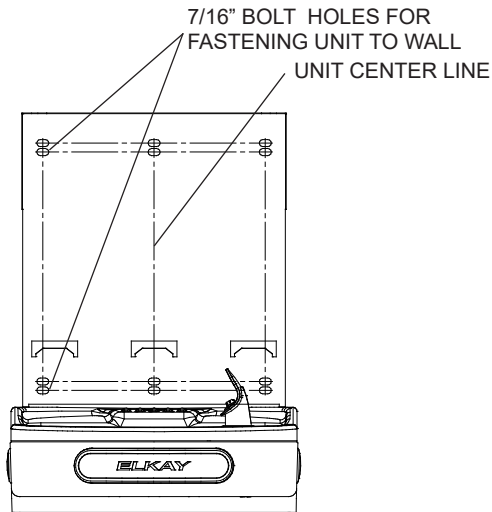

Fig. 4
- 4) Install wall mounting plate to wall using six (6) 7/16" oround mounting holes (mounting bolts not included) (See Fig. 4). Use appropriate fasteners for your wall type.